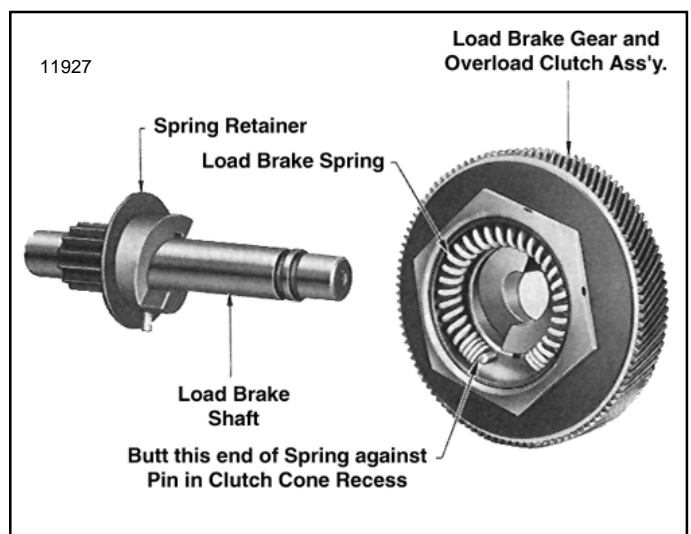

Figure 7-24. Load Brake Gear and Overload Clutch Assembly Removed from Load Brake Shaft Showing Brake Spring Installed in Clutch Cone
(3) Remove load brake gear and overload clutch assembly from output pinion shaft. Pull the spring from its recess in clutch cone (fig. 7-24) but do not further disassemble gear and clutch assembly. See "NOTE" below.
NOTE: Disassembly of the load brake gear and overload clutch assembly (fig. 7-24) is not recommended. Clutch pressure is preset by the factory at assembly to provide the correct torque to allow the clutch to refuse loads within a specified range (150% of rated load to 200% rated load). It is suggested whenever there is a need to repair or readjust the gear and clutch assembly that it be sent to an authorized Yale Hoist Repair Station where adequate tools, fixtures and appropriate test equipment is available.
(1) Before assembly, all parts should be cleaned and inspected to determine their serviceability. Replace parts that are worn or damaged.
(2) Reassemble load brake parts following a reverse procedure of the disassembly steps listed above, observing the assembly steps (3) through (6) below.
(3) Before installing spring in its recess in center of clutch cone (fig. 7-24) apply a good grade of ball bearing grease to inside of recess. Spring must be positioned exactly as illustrated, abutted against pin.